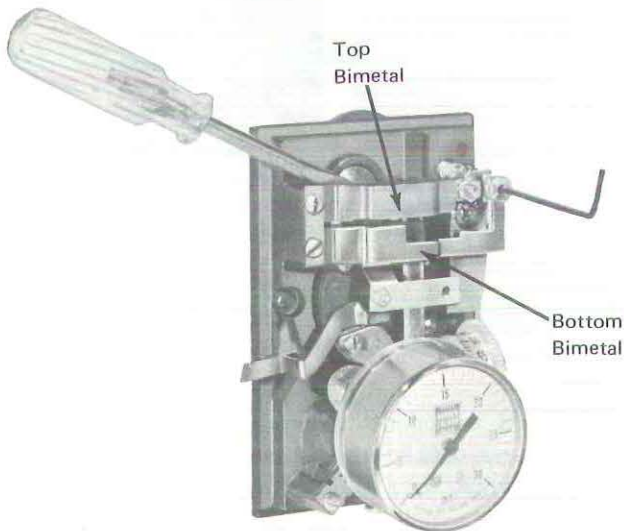

Figure 8
3. Attach the test gauge rubber seal to the boss, as shown. Using a rotary motion, push the gauge on as far as it will go (1/4-inch minimum). See Figure 8. The tubing will support the test gauge in a position where it will be easily read. The supply pressure to the thermostat should be 15 psig.
1. Insert the blade of the tool or screwdriver between the switchover plunger and the switchover lever shown in Figure 8. The top (18) bimetal should be approximately 1/32-inch off the lever and the bottom (19) bimetal should be in contact with the lever.